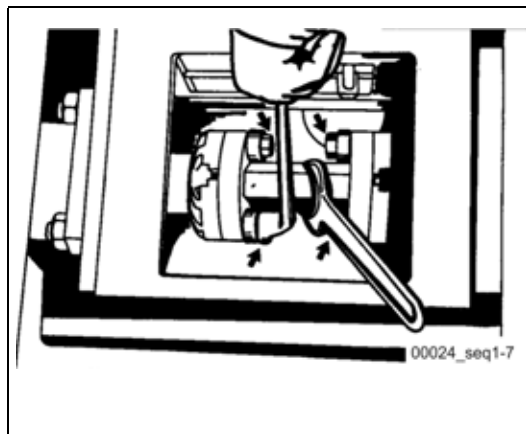

Fig. 356
- Loosen the fastening screws on the distance piece and remove them. While doing so, hold the distance piece on the continuous hexagon (Fig. 356).